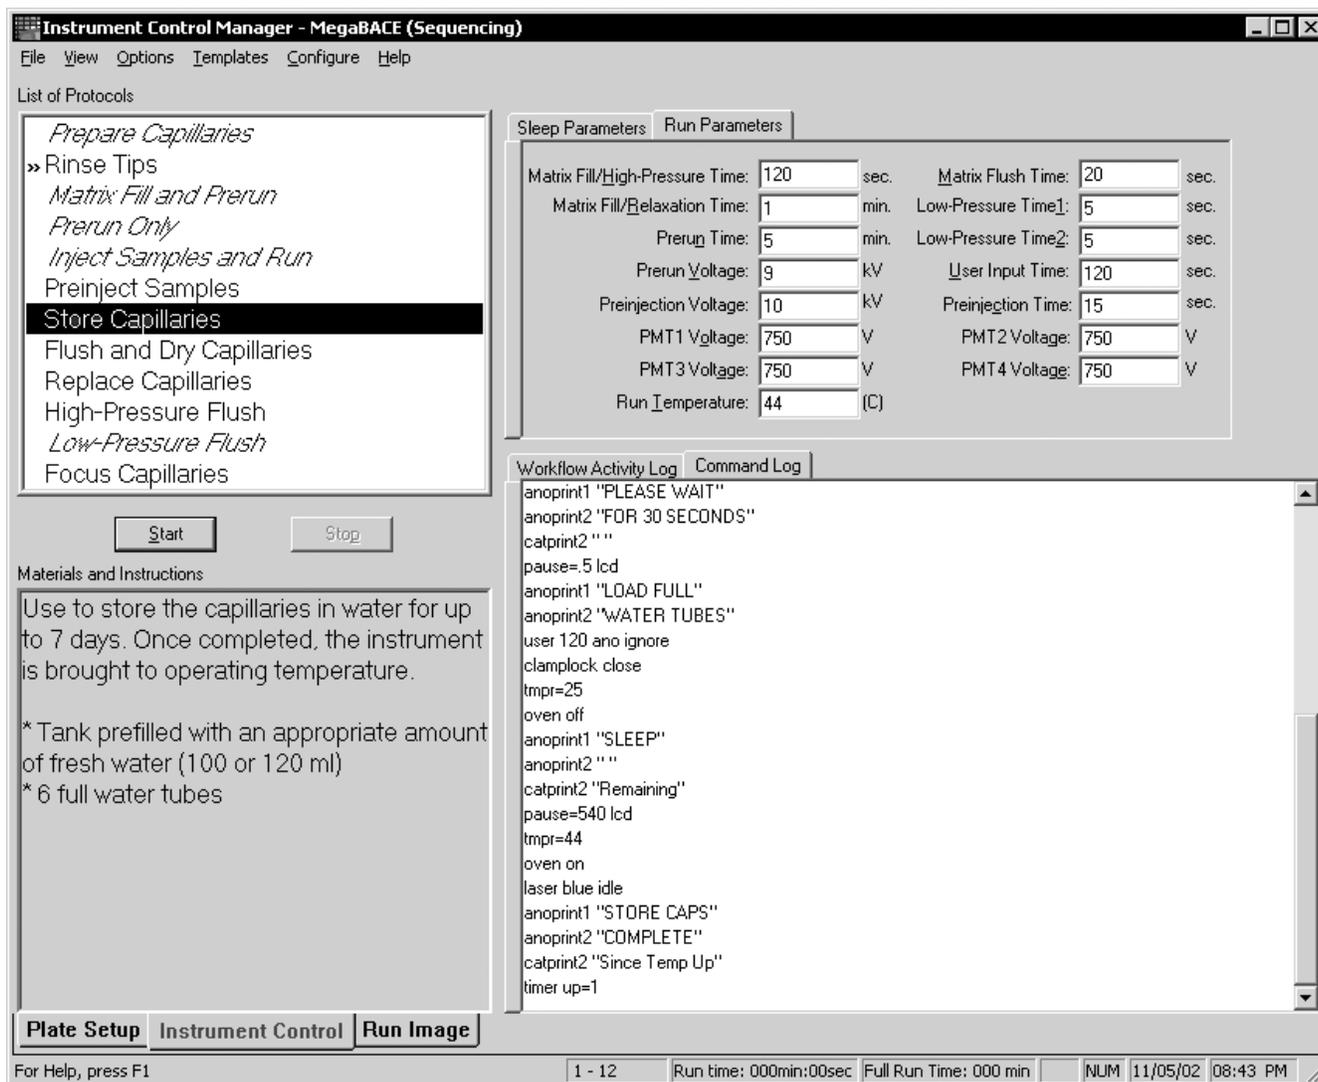

Figure 17-2. The Instrument Control window.
1. Click the **Instrument Control** tab (figure 17-2) to display the Instrument Control window.
The software selects and places a double arrow in front of the Prepare Capillaries protocol in the List of Protocols (figure 17-2). See section 4.6 for instructions on how to prepare the capillaries.